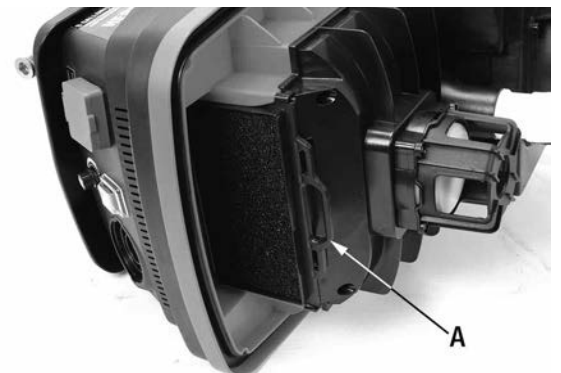

FIGURE 10
- For **vacuuming wet materials**, and to ensure proper filtration, the black foam filter (A) Fig.10 must be installed. Unlatch the cover/motor assembly latches (A) Fig.6 on both sides of the tank. Lift and place the cover/motor assembly on its side, slide the foam filter (A) Fig.10 into the housing as shown.